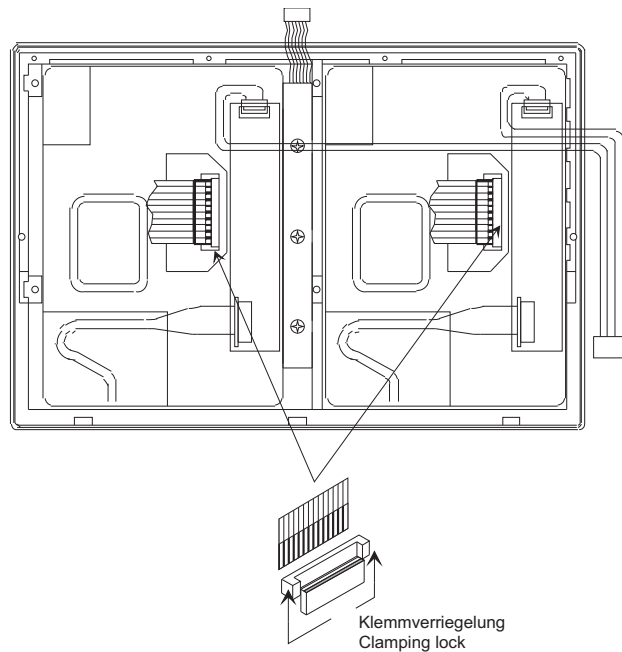

Fig. 8-6: Removal of the flat cable from the display unit
8. Loose the locker of the flexible flat cables at the display units. Remove flat cables. Avoid damage of the flat cables because of canting. (fig. 8-6)